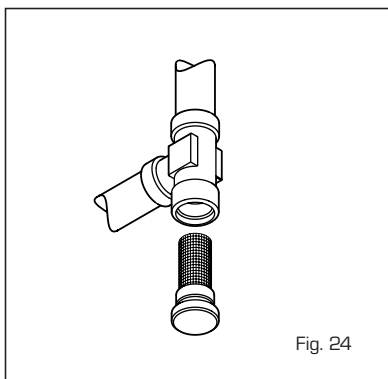

Fig. 24
4.6.2 Limpeza do "Aqua Guard Filter System" (fig. 24)